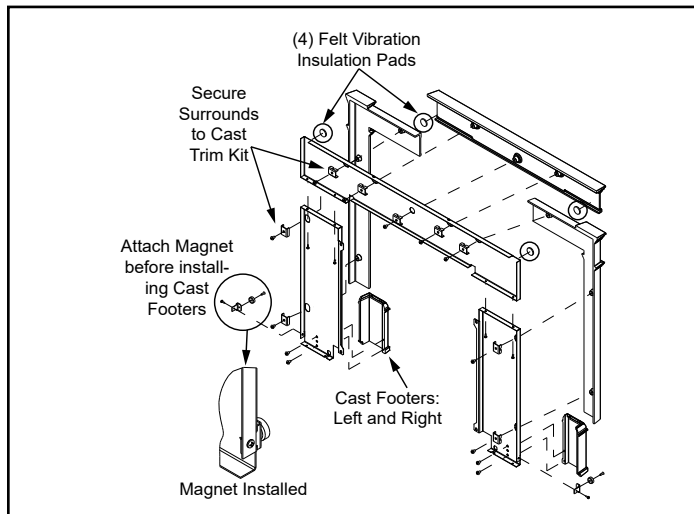

Figure 23.1
1. Place the peel and stick round felt vibration insulation pads on the front side in each corner of the top metal piece and on the back side in each corner of the top cast piece (**Figure 23.1**).
- a. Place corresponding cast trim pieces (2 cast trim sides and 1 cast trim header) underneath the surround set, also face down. Align the holes in the metal pieces with the 5 bosses on the top cast piece and 2 bosses on each side piece (**Figure 23.1**).
- b. Attach the magnets to the magnet brackets with one countersink screw each. Attach magnet and bracket to the metal surround sides with magnet facing the front as shown in **Figure 23.1**.